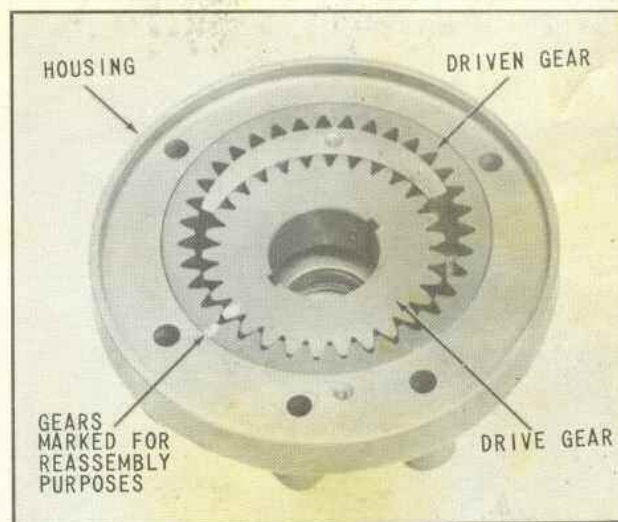

Fig. 94 Installing Pump Gears
8. Place housing, lubricated with automatic transmission fluid type "A", suffix "A", and complete with seal in position shown in (Fig. 94). Install lubricated gears as shown, with reassembly identification marks matched, (Fig. 94).